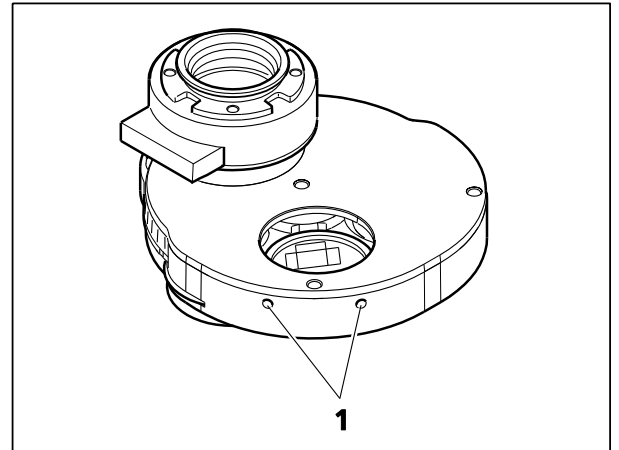

Fig. 4-11 Centering Screws
- If necessary, use the two centering keys to precenter the iHMC module in the mount, based on your visual judgment. The two holes for accessing the centering screws (Fig. 4-11/1) are located under the change position.